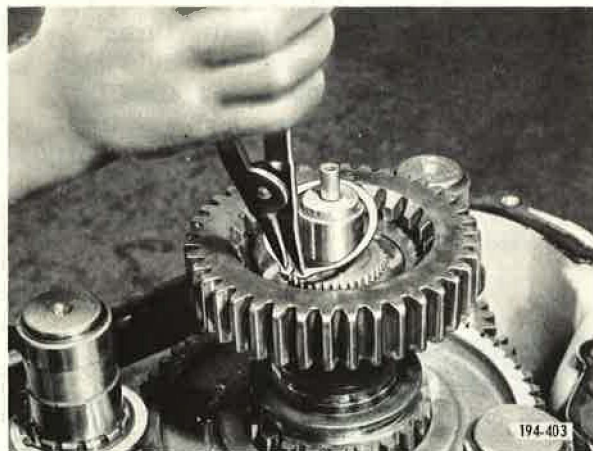

Figure 56. Installing Lo-Range Main Drive Gear Retaining Snap Ring
18. Install Lo-range main drive gear retaining snap ring. See Figure 56.